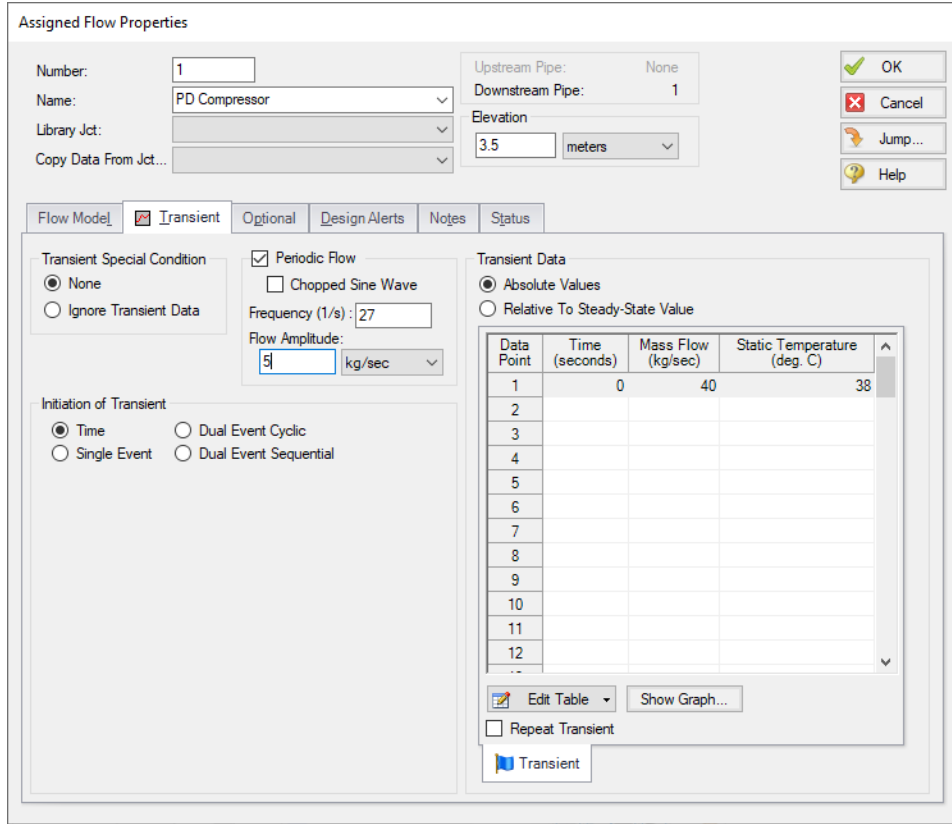

Figure 6: Assigned Flow Properties window with Periodic Flow transient applied
7. Check the box next to Periodic Flow. Define the Frequency as 27 1/s and the Flow Amplitude as 5 kg/sec (Figure 6).